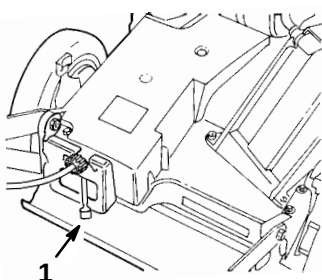

Figure 8
3. Move ground speed control to  (NEUTRAL) (Fig. 8).